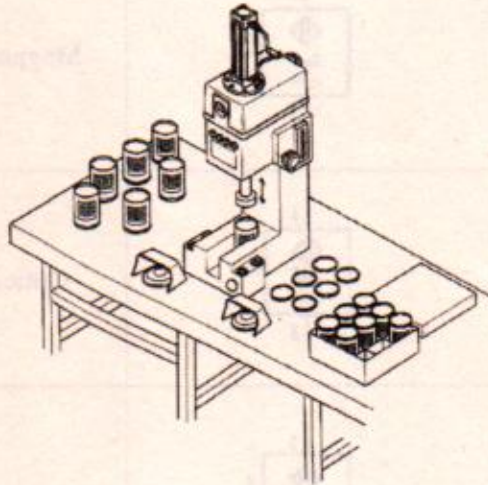

Figure 02: The system fixing lids to plastic cans.
- b) There is an ink filling system. It is used to fill plastic cans with wall and ceiling paint. After filling inks to the plastic cans, they have to automate the system to fix the lids. For that, lids are going to be pressed onto the plastic cans as shown in Figure 02.